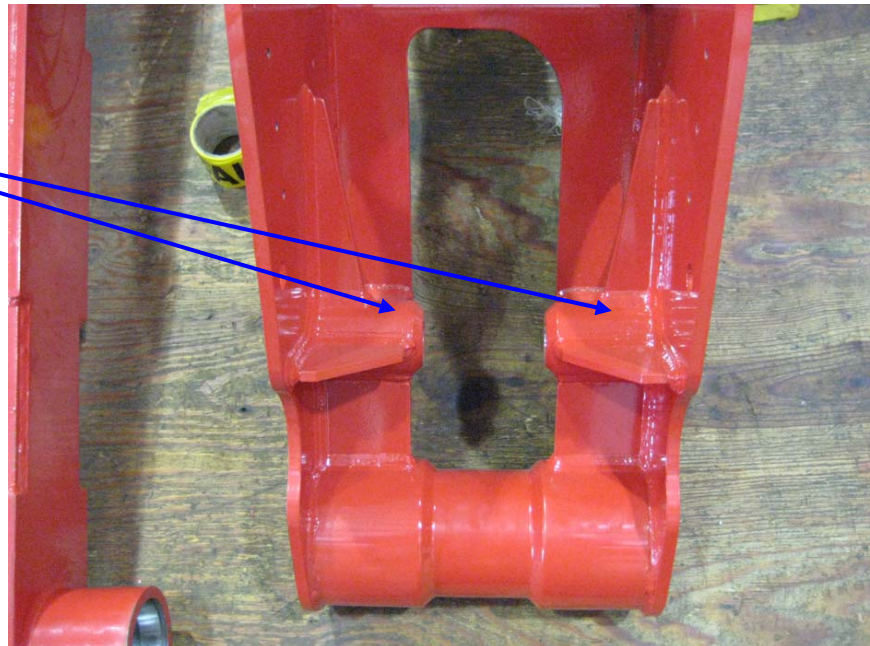

Figure 2
- f. Figures 2 and 3 below indicate the areas of inspection.